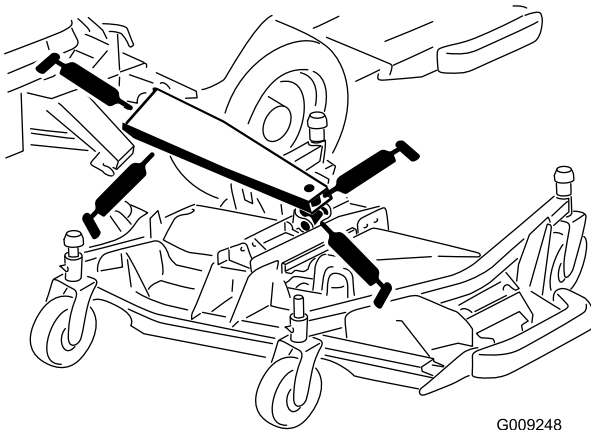

Figure 53
- Main lift arm bushings (3) (Figure 53)
- Lift cylinder bushings (1) (Figure 53)